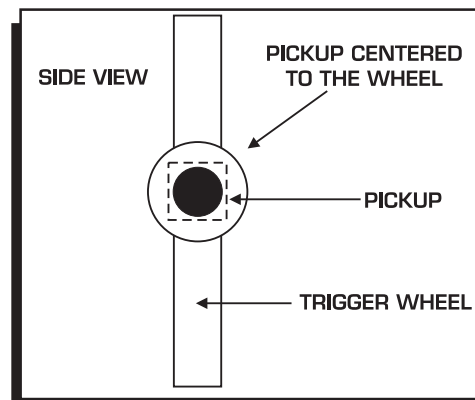

Figure 3 Pickup Centered on the Trigger Wheel.
4. Check and make sure the wheel is positioned correctly with the pickup and torque the trigger wheel bolts to 25 - 30 lb-ft. The pickup should be centered to the center line of the trigger wheel (Figure 3). If not, it may be necessary to add shims to the pickup bracket to achieve the proper position.